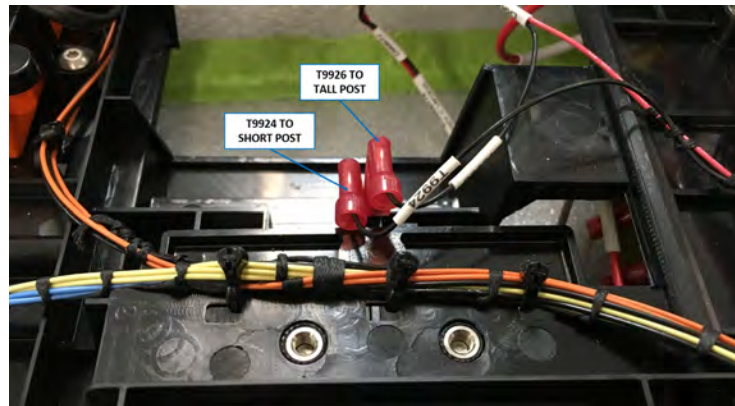

FIGURE 6-18
2. Connect wire labeled T9924 to the short post of the switch and T9926 to the tall post of the switch as shown in Figure 6-18.